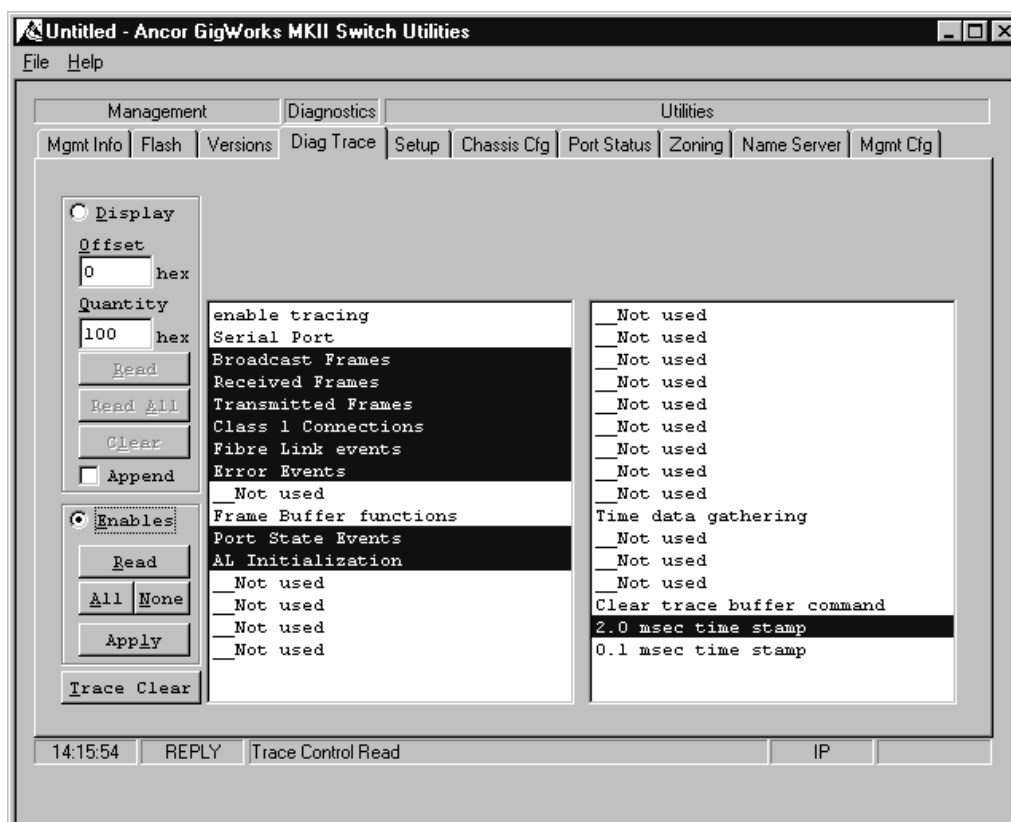

Figure 3-5 Diagnostics Trace Tab (Enables)
A typical Diagnostics Trace scenario follows (Refer to Figure 3-5):
6. (Refer to Figure 3-5) Press the Display radio button to enable the Display controls.
Refer to Figure 3-5. The Enables controls allow you to read and display the current list of Diagnostics Trace functions from the Switch. The display shows which functions are enabled and which are disabled. The Enables controls also allow you to enable or disable one or more of these functions, select from two time stamps, and clear the Switch's Diagnostics Trace Buffer.